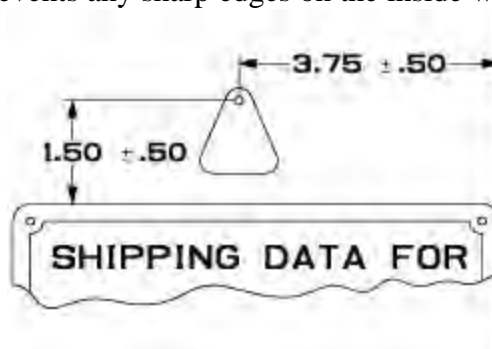

Figure 9
2. To install the MWO identification plate on cargo trailers, locate and drill a .129 - .133 inch diameter hole in the front cargo body above the shipping data plate (see figure 9). Using a rivet gun, hand-set and pull one rivet P/N 12449496-1 from inside the cargo box fastening the MWO identification plate to the front cargo body. Installing the rivet from inside of cargo box prevents any sharp edges on the inside wall of cargo box.